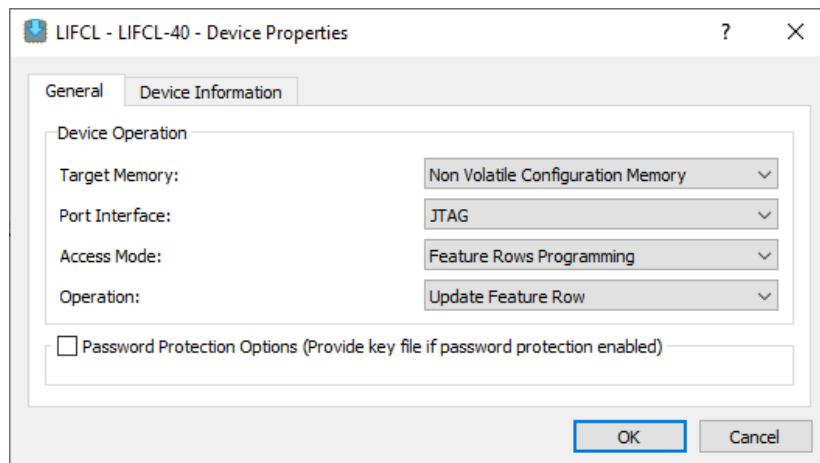

Figure 2.7. Device Properties
- Open the Radiant Programmer and set the appropriate settings as shown in Figure 2.7. Click **OK**.